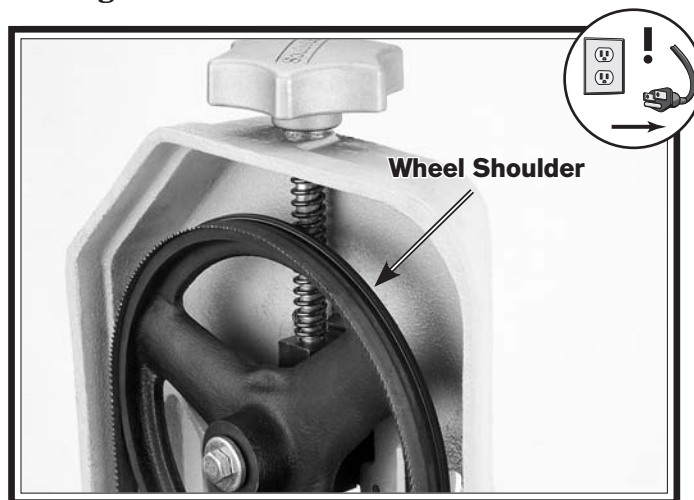

Figure 31. Installing blade around wheel.
6. When the blade is around both wheels, adjust the position so the back of the blade is against the wheel shoulder, as shown in **Figure 31**.